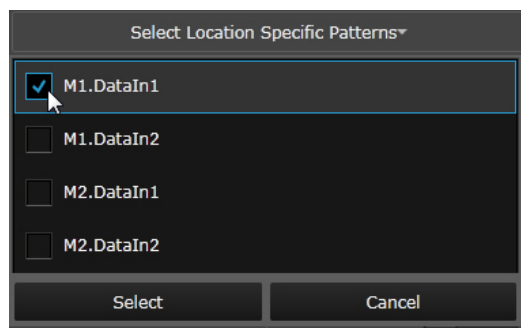

Figure 41 Select module/channel number
- d Select **M1.DataIn1** then click on the **Select** button as shown in Figure 41 on page -91.